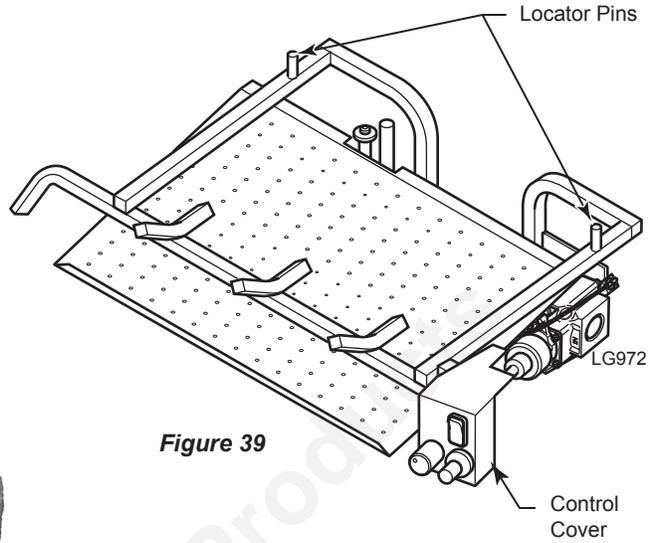

Figure 39
1. Place back log (#1) on back of base aligning two (2) pins on base with holes in bottom of log. *Figures 39 and 40*